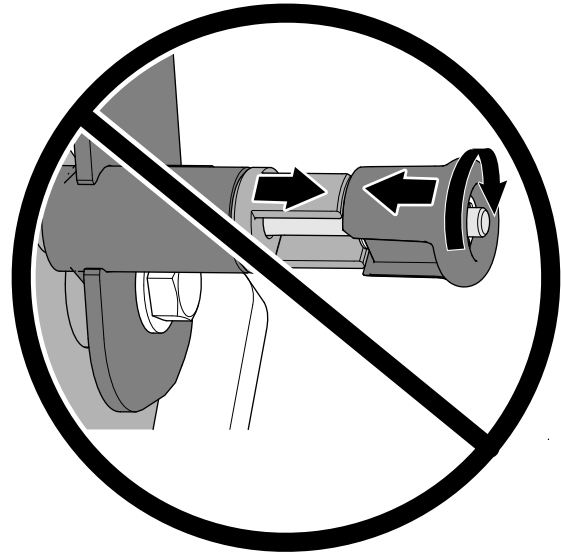

Figure 75
**Important:** Do not rotate the knob so that the latch pin cannot retract (Figure 75).